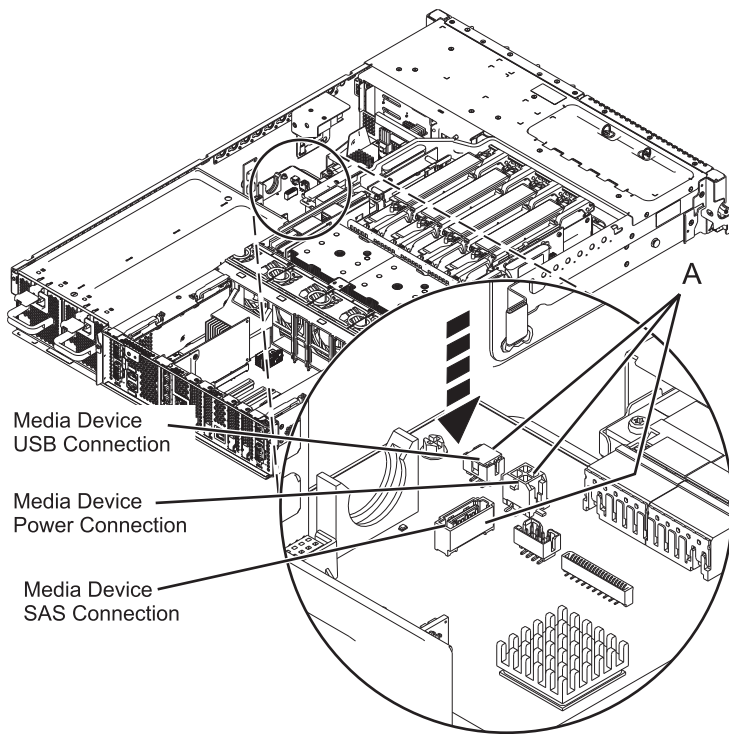

Figure 16. Connecting the media device cables
- a. Connect the media device cables. Connect the media device cables, if present, by firmly pressing the cable connectors into the cable receptacles (**A**). See Figure 16 on page 20.